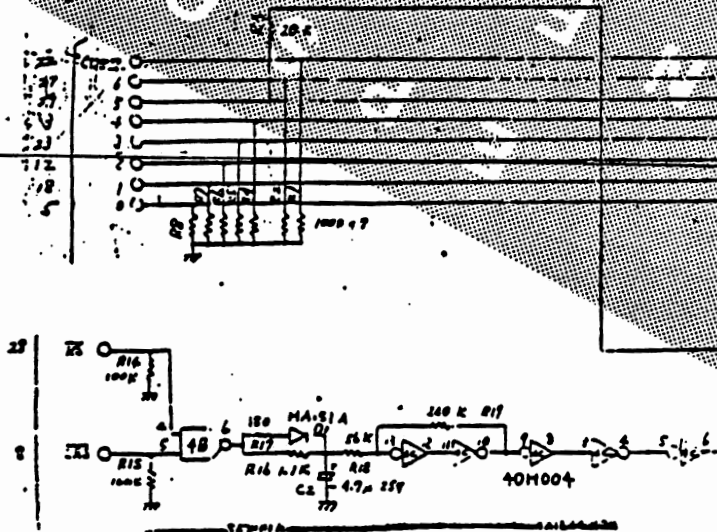

Fig. 3.5 ID generatin circuit.
Fig. 3.5 shows the RAM cartridge identification (ID) check circuit.